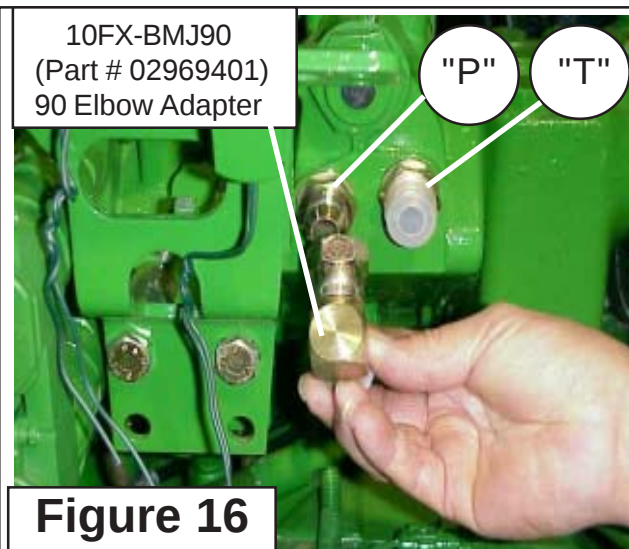

Figure 16
4. Install Elbow Adapters. Attach two Elbow Adapters 10FX-BMJ90 (Part #02969401) to the two Straight Hydraulic Adapters. Tighten these Elbows with them pointing down, leave the plastic caps on them. (**See Figure 16 and 17**)